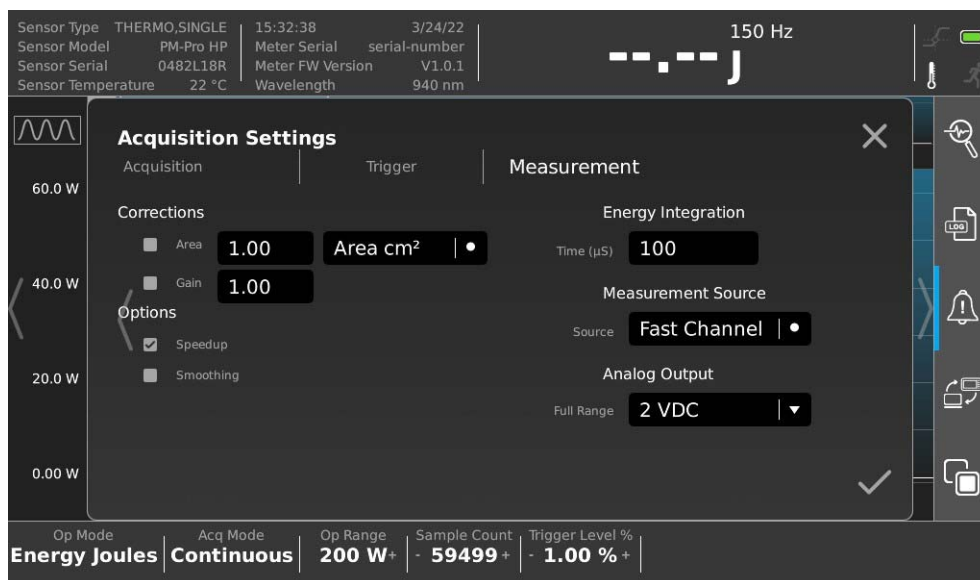

Figure 6-24. Configure Acquisition Measurement Settings
- a.) Press the **Measurement** tab. Refer to Figure 6-24.